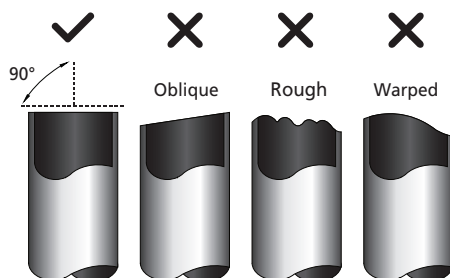

Fig. 7.1
1. Make sure that the pipe is cut at a perfect 90° angle. Refer to Fig. 7.1 for examples of bad cuts.